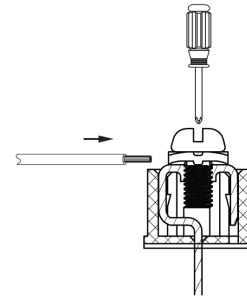

Fig. 47 —Connecting Communication Wire To Outdoor Unit Communication Terminal
3. Use a suitable screwdriver to fix the communication wire on the outdoor unit communication terminal as shown in Fig. 47.